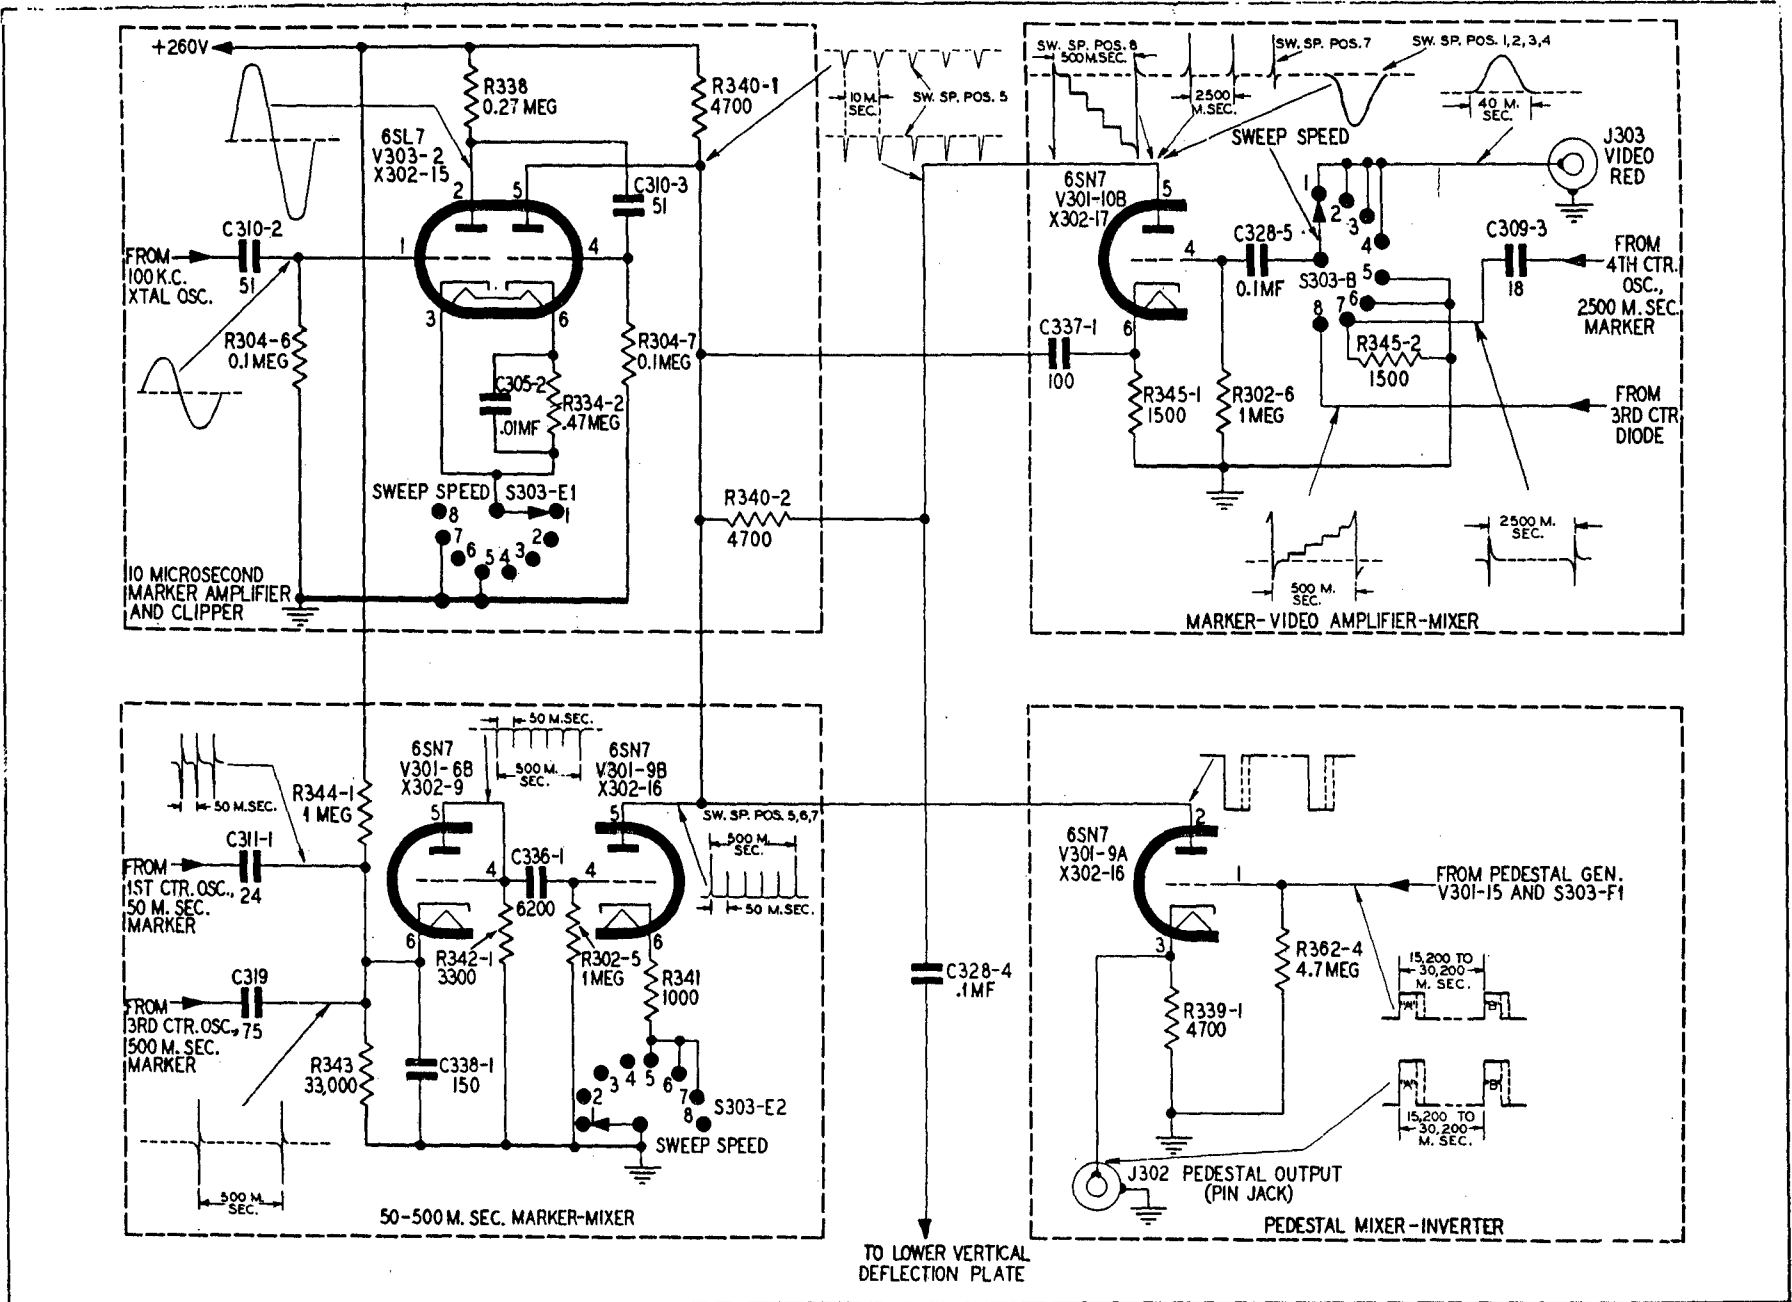

Figure 4-65. Marker-Mixer Circuits
(8) MARKER CIRCUITS.—To provide the operator with a means for calculating the difference in the time of arrival between the received pulses, time calibration marks, called markers, are developed in the marker generator circuits, and are made to appear on the traces. (See fig. 4-65.) These markers appear every 10, 50, 500, and 2500 microseconds, much like the fraction marks on a scale. The 10-microsecond marks are developed by the 10-microsecond amplifier V-303-2; the 50- and 500-microsecond marks are shaped by tube V-301-6 and mixed in the 50- to 500-microsecond marker mixer tube V-301-9B.
(a) 10-MICROSECOND MARKER GENERATOR.—The 10-microsecond markers are formed in the 10-microsecond marker amplifier tube V-303-2, from the sine-wave voltage output of the 100-kilocycle crystal oscillator. The proper phasing of this voltage is determined by the action of capacitors C-307-1, C-303-2, and resistor R-303. The 100-kilocycle signal is fed through capacitor C-310-2 to the grid of the A-section of tube V-303-2 by which it is amplified, with but slight change in wave-form. The high-amplitude 100-kilocycle sine-wave voltage is fed to the second section of the 10-microsecond amplifier through capacitor C-310-3. This tube, by the combined action of C-305-2 and R-334-2 in its cathode circuit, operates at cutoff throughout most of the input cycle. Therefore, the negative swing of the input voltage causes no change in the plate condition of this tube. The peak of the positive swing causes current flow in tube V-303-2B and develops a sharp negative pulse every 10 microseconds across resistor R-340-1, which is also the plate-load resistor of both sections of tube V-301-9. These 10-microsecond pulses, being negative, cause an upward deflection on the traces when fed to the lower vertical-deflection plate of the cathode-ray tube V-305. A part of the negative output from the 10-microsecond marker generator is fed through capacitor C-337-1 to the cathode of video amplifier V-301-10B. Since the final output is taken from the plate of this tube, the coupling effect between cathode and plate results in sharper, more defined 10-microsecond pulses. The 10-microsecond marker generator functions only in "SWEEP SPEED" positions "5" and "7", since its cathode circuit is open in all other positions of the switch. (See fig. 4-65.)